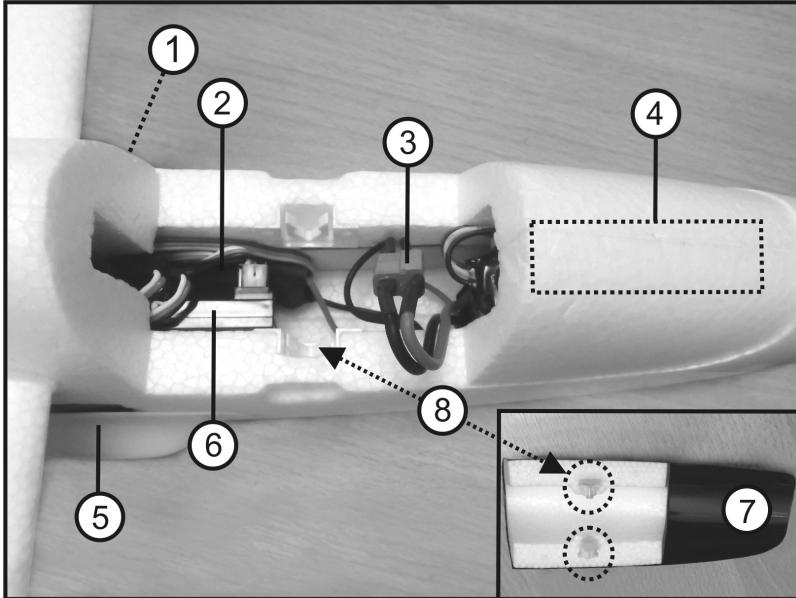

Figure 8
Figure 8 shows the position of the elevator servo (1), the flight controller (2), the plug-in system (3) between flight battery and flight controller, the flight battery (4), the rudder servo (5) and the installation site of the receiver at the side of the fuselage (6).
Connect the flight battery to the flight controller (see figure 8, item 3). The flight controller now checks the „Motor off“ control signal of the transmitter. Depending on how the motor brake is programmed, the flight controller's readiness for operation is signalled by one or two sounds.